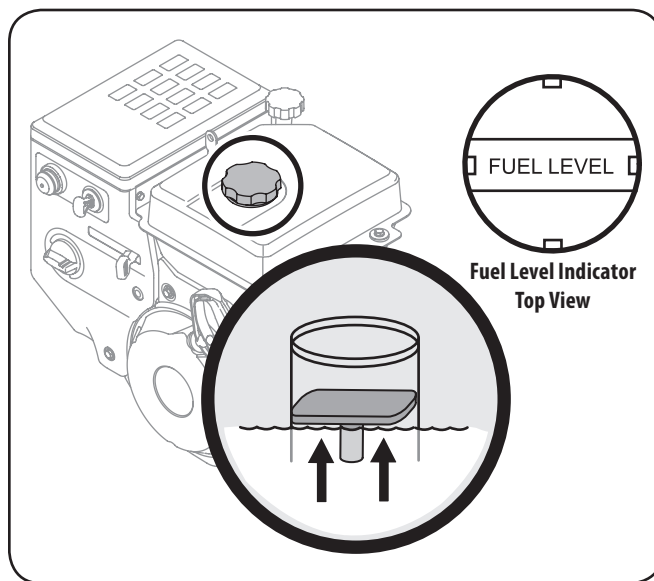

Figure 3-12
2. A fuel level indicator is located in the fuel tank. Fill tank until fuel reaches the fuel level indicator, Fig. 3-12. Be careful not to overfill.